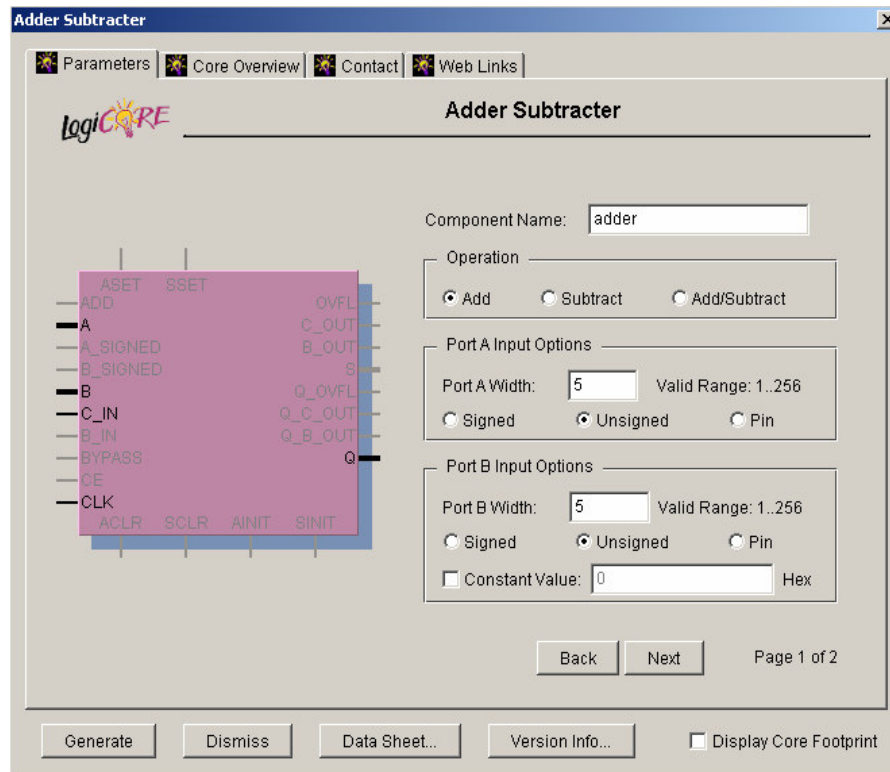

Figure 12. Parameters for Adder Subtractor Core (First Window).
4. Create an Adder core; Duplicate step 2 of this lab to create the core for an adder. Use the **Adder Subtractor** core that is found under **Math Functions / Adders & Subtractors** in the Coregen first window. The core needs the parameters shown in figure 12. Once you finished setting up these parameters, click on the **Next** button and fill out the parameters shown in figure 12. The important thing about the parameters that you just set up is that the inputs and output ports of the core will be 5 bits wide.